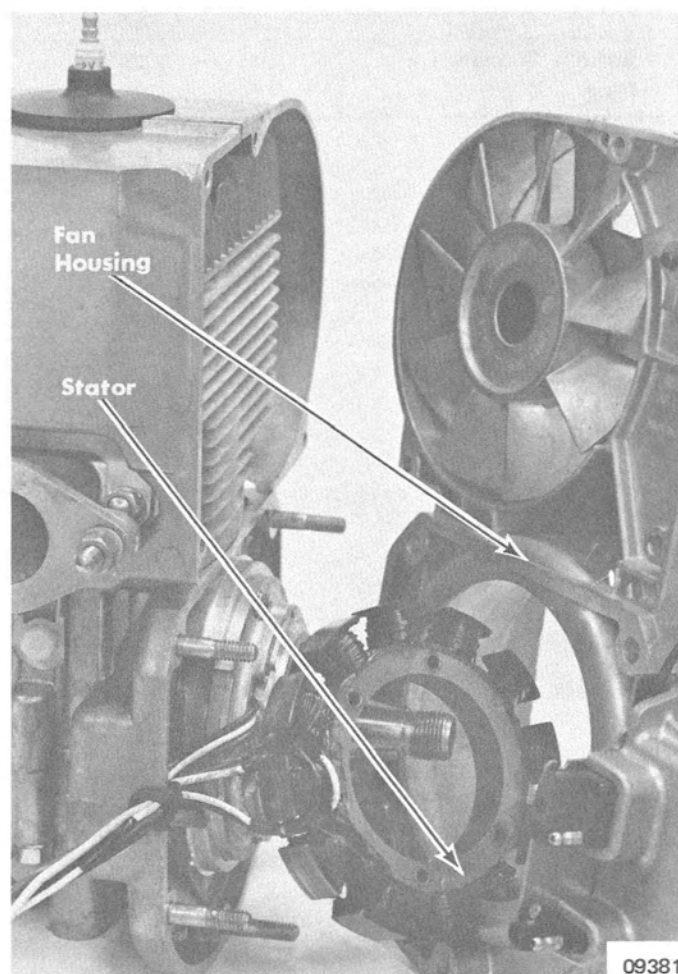

Figure 10. Installing Fan Housing
2. Install stator thru fan housing opening by inserting edge of housing between 2 of the stator poles and pulling stator thru housing. (Figure 10)